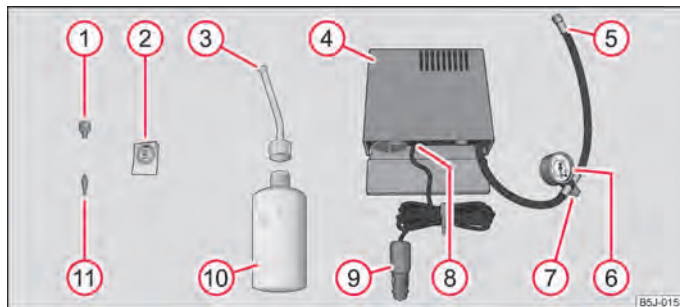

Fig. 146 Components of the tyre repair kit
- Stick the sticker (2) ⇒ fig. 146 on the dash panel in view of the driver.
- Use the valve remover (1) to remove the valve core and place it down on a clean surface.
- Forcefully shake the tyre inflator bottle (10) ⇒ fig. 146 several times.
- Firmly screw inflation hose (3) onto the tyre inflator bottle in a clockwise direction (10). The film on the cap is pierced automatically.
- Remove the plug from the inflation hose (3) and plug the open end fully into the tyre valve.
- Hold the bottle (10) with the floor facing upwards and fill the whole sealing agent in the tyre inflator bottle into the tyres.
- Screw the valve core back into the tyre valve using the valve remover (1).
- Screw the tyre inflation hose (5) ⇒ fig. 146 of the air compressor firmly onto the tyre valve.
- Check whether the air release valve (7) is closed.
- Insert the plug (9) into the 12 Volt socket.
- Switch on the air compressor with the ON and OFF switch (8).
- Allow the air compressor to run until reaching a pressure of 2.0 - 2.5 bar. Maximum run time of 8 minutes ⇒ (1)!
- If you cannot reach an air pressure of 2.0 - 2.5 bar, unscrew the tyre inflation hose (5) from the tyre valve.
- Screw the tyre inflation hose of the air compressor (5) firmly back onto the tyre valve and repeat the inflation procedure.